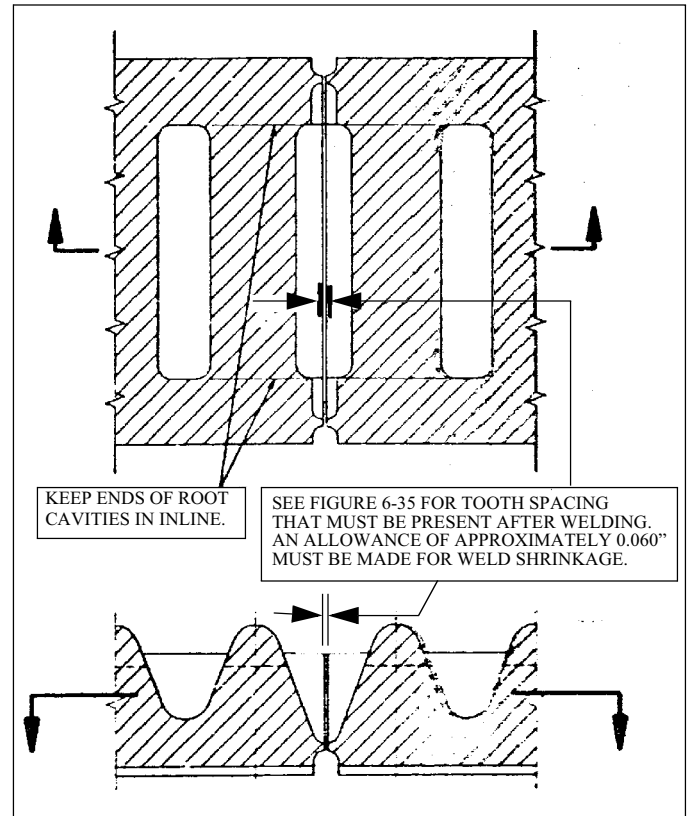

Figure 6-34. Adjusting Tooth Spacing
6. Adjust the tooth spacing over the joint prior to welding as shown in Figure 6-34.